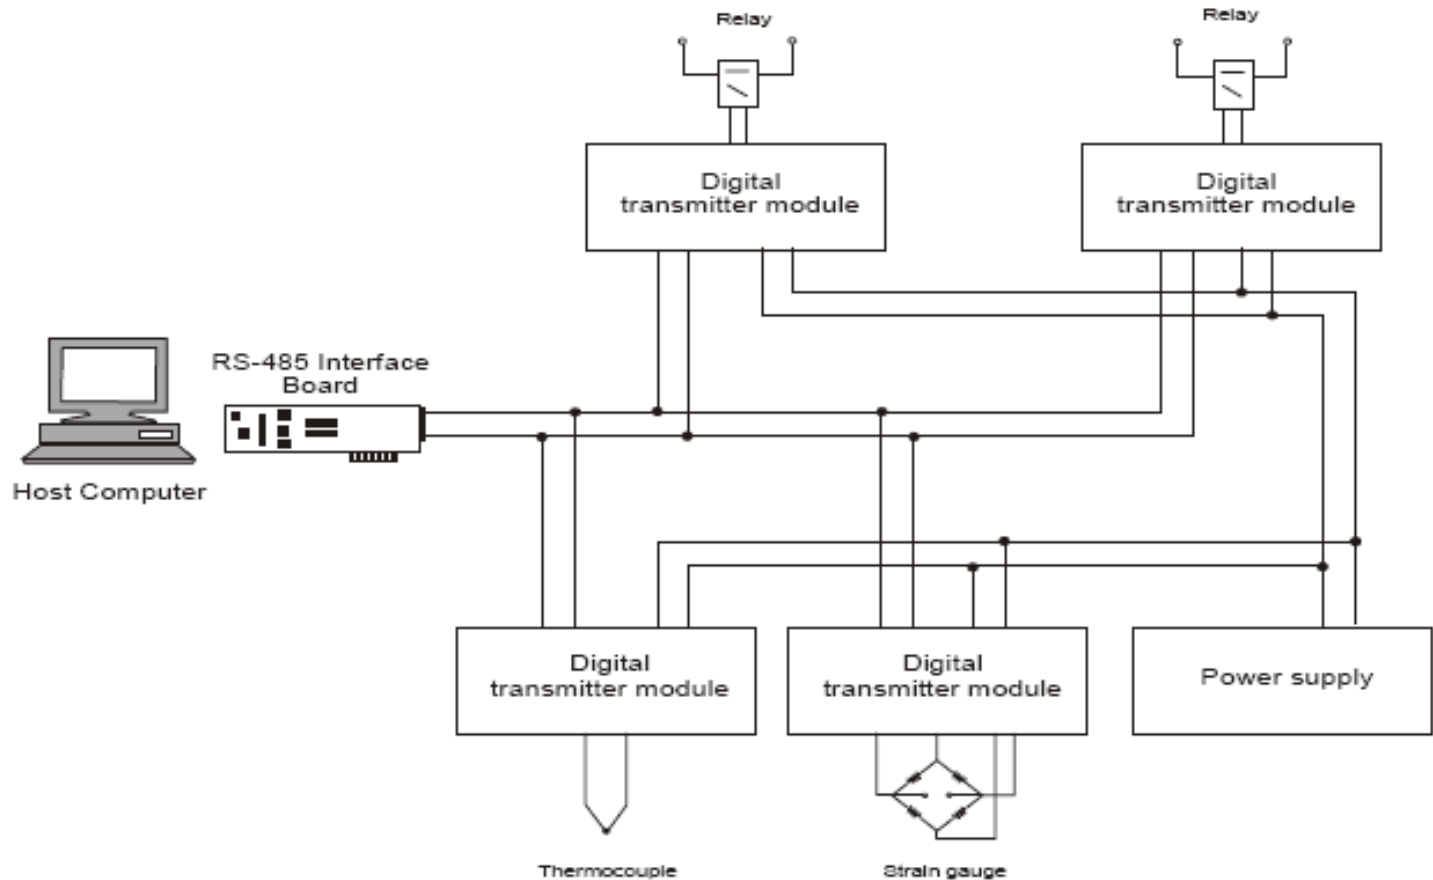

Figure 1.3
- The use of RS-485 multi-drop networks, as shown in Figure 1.3, reduces the amount of cabling required, since each signal-conditioning module shares the same cable pair. Linking up to 32 modules, communicating over long distances, is possible when using the RS-485 multi-drop network.